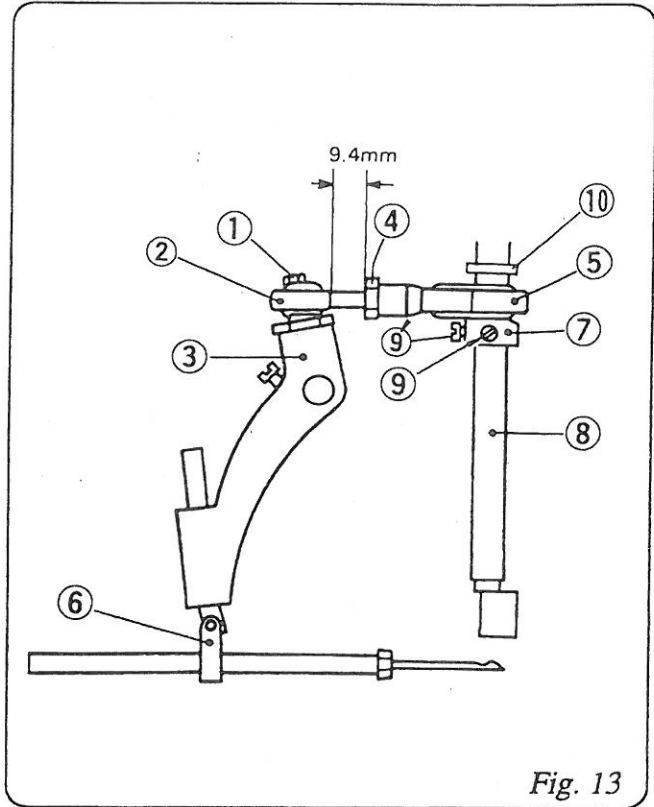
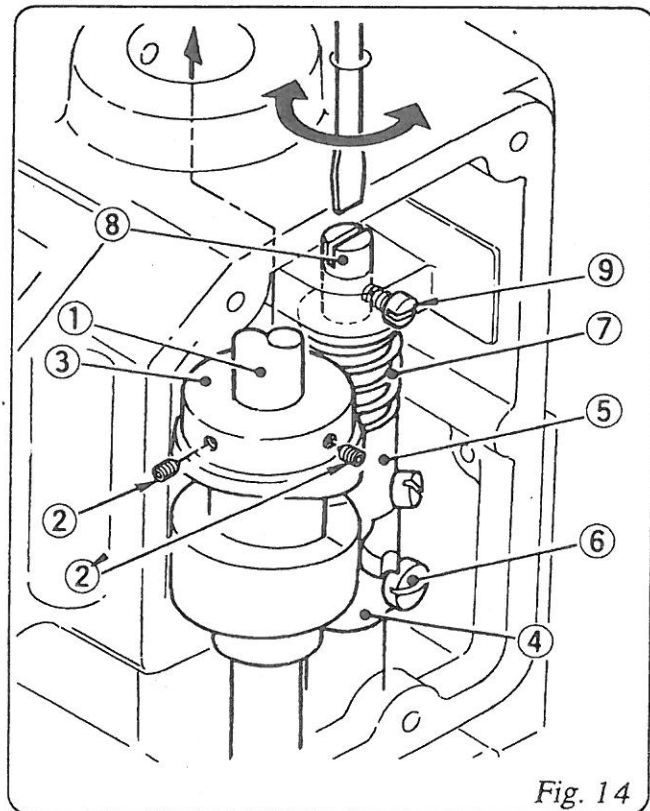

Fig. 13
Fig. 14
For replacement or adjustment of Ball Rod, refer to Fig.13.
To fix Eccentric Cam ⑦ on Main Shaft ⑧, tighten the Screws ⑨ and ⑨ on Main Shaft ⑧ (Eccentric Cam ⑦ should contact Spacer ⑩ slightly.). The position of Needle is adjusted so that the distance between the point of Needle (at its highest position) and Throat Plate is 13 mm, after loosening screw on Needle Bar Connection Assembly ⑥ in Fig.13.
① Screw 11/64S40084
② Rod End 6A04001
③ Needle Bar Lever 242051A
④ Nut 1N8
⑤ Connecting Rod Assembly 242011A
⑥ Needle Bar Connection Assembly 242101A
⑦ Eccentric Cam (part of Connecting Rod Assembly) 242011
⑧ Main Shaft 241102
⑨ Screw 11/64S40001
⑩ Spacer 241161
Adjust Looper Drive Cam ③ When necessary as follows: (Refer to Fig.14.).
a) Apply the Screws ② and ② on the taper of Main Shaft ①.
b) Adjust Arm (B) ④, so that Looper Drive Cam ③ and Arm (A) ⑤ move smoothly. After adjusting, fix the Screw ⑥ tightly.
c) The clearance between Looper Drive Cam ③ and Arm ⑤ is effected by Spring ⑦. Loosen Screw ⑨ and turn Spring Supporter ⑧ to adjust the pressure of Spring ⑦. After adjusting, tighten the Screw ⑨ to fasten Spring Supporter ⑧.
① Main Shaft 241102
② Screw 15/64S28524
③ Looper Drive Cam 243012
④ Looper Rocker Shaft Arm (B) 243081
⑤ Looper Rocker Shaft Arm (A) 243071
⑥ Screw for Looper Rocker Shaft Arm (B) 11/64S40009
⑦ Spring 243131